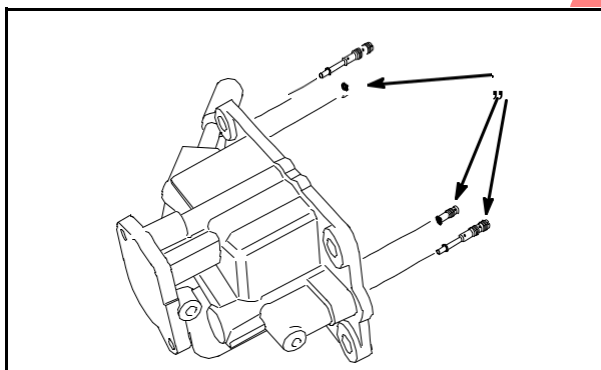

Fig. 131
Remove main jets (4) from float bowl, **Fig. 131**.